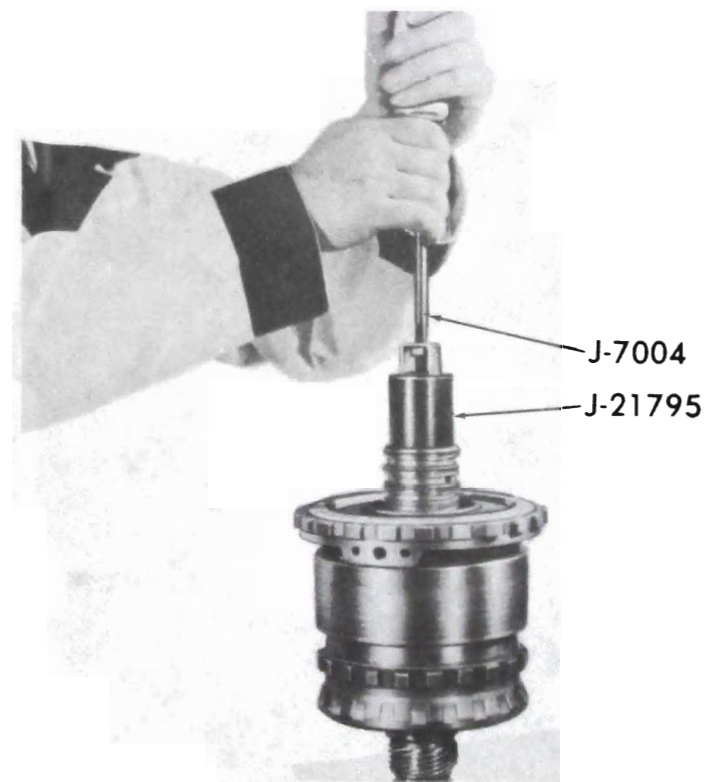

Figure 76-97
19. Place gear unit assembly with output shaft facing down in hole in work bench. See Figure 76-97.